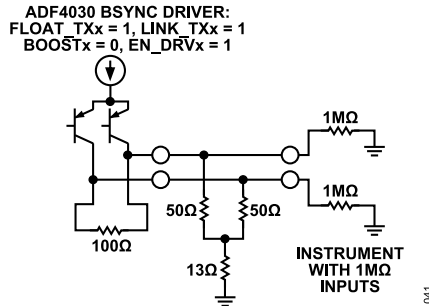

Figure 41. ADF4030 Driver to 1 MΩ Instrument Connection
- Instruments that have 50 Ω and 1 M Ω input impedance (Figure 40 and Figure 41)